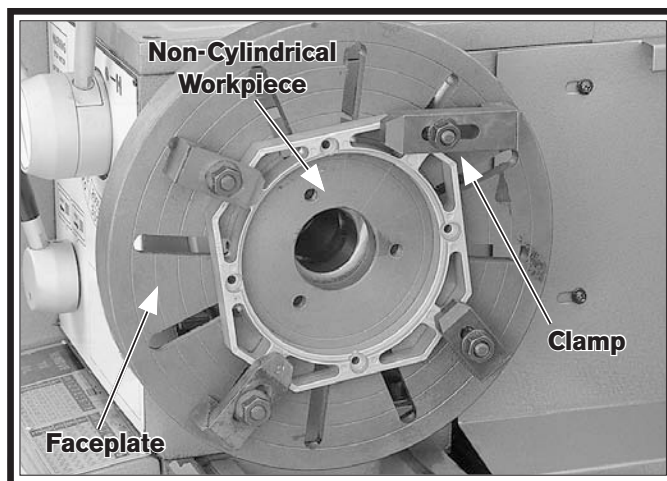

Figure 63. Example of workpiece clamped in a faceplate.
3. With help from another person, place the workpiece onto the faceplate and clamp it in place with a minimum of three independent clamping devices (see **Figure 63** for an example).